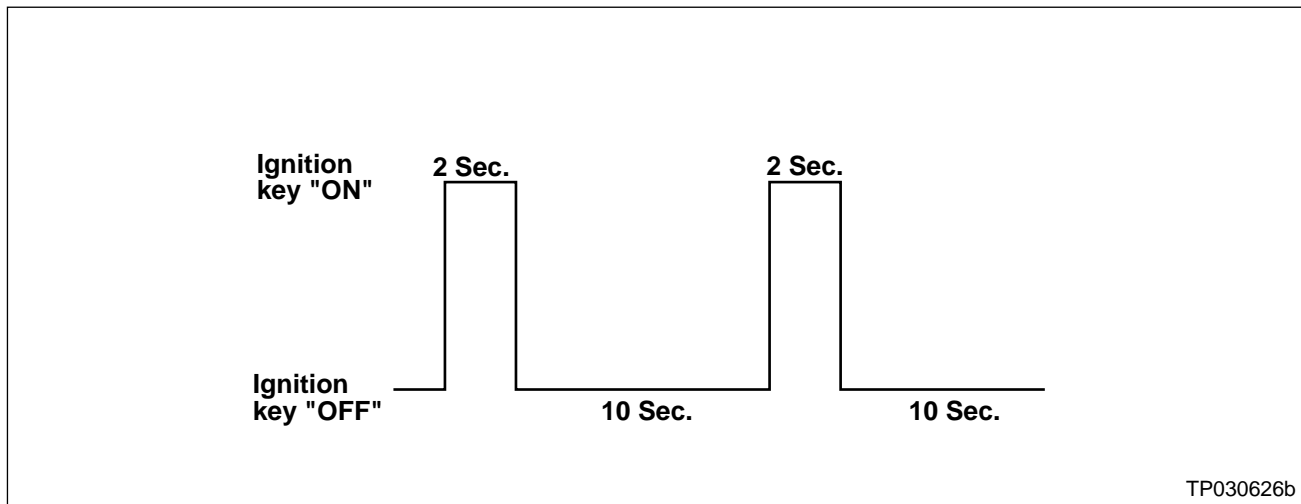

Figure 1
- e. Turn the ignition switch "OFF" again for 10 seconds (see Figure 1).